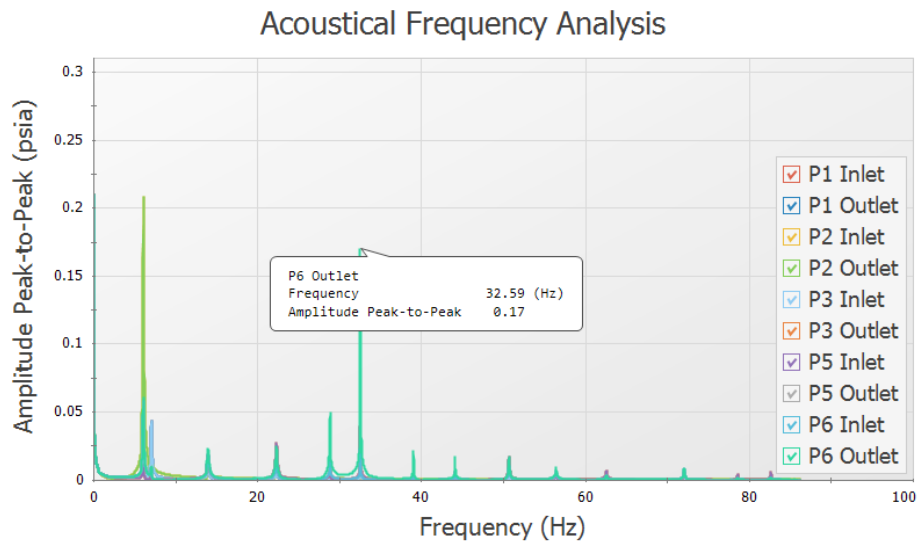

Figure 11: Excitation Frequency Analysis with Dialog Flag
- Left-click near the frequency of about 32.59 Hz and drag the mouse over the peak on the graph near this frequency. This will highlight and flag the local maximum. Figure 11 shows the frequency graph after the dialog flag appears.